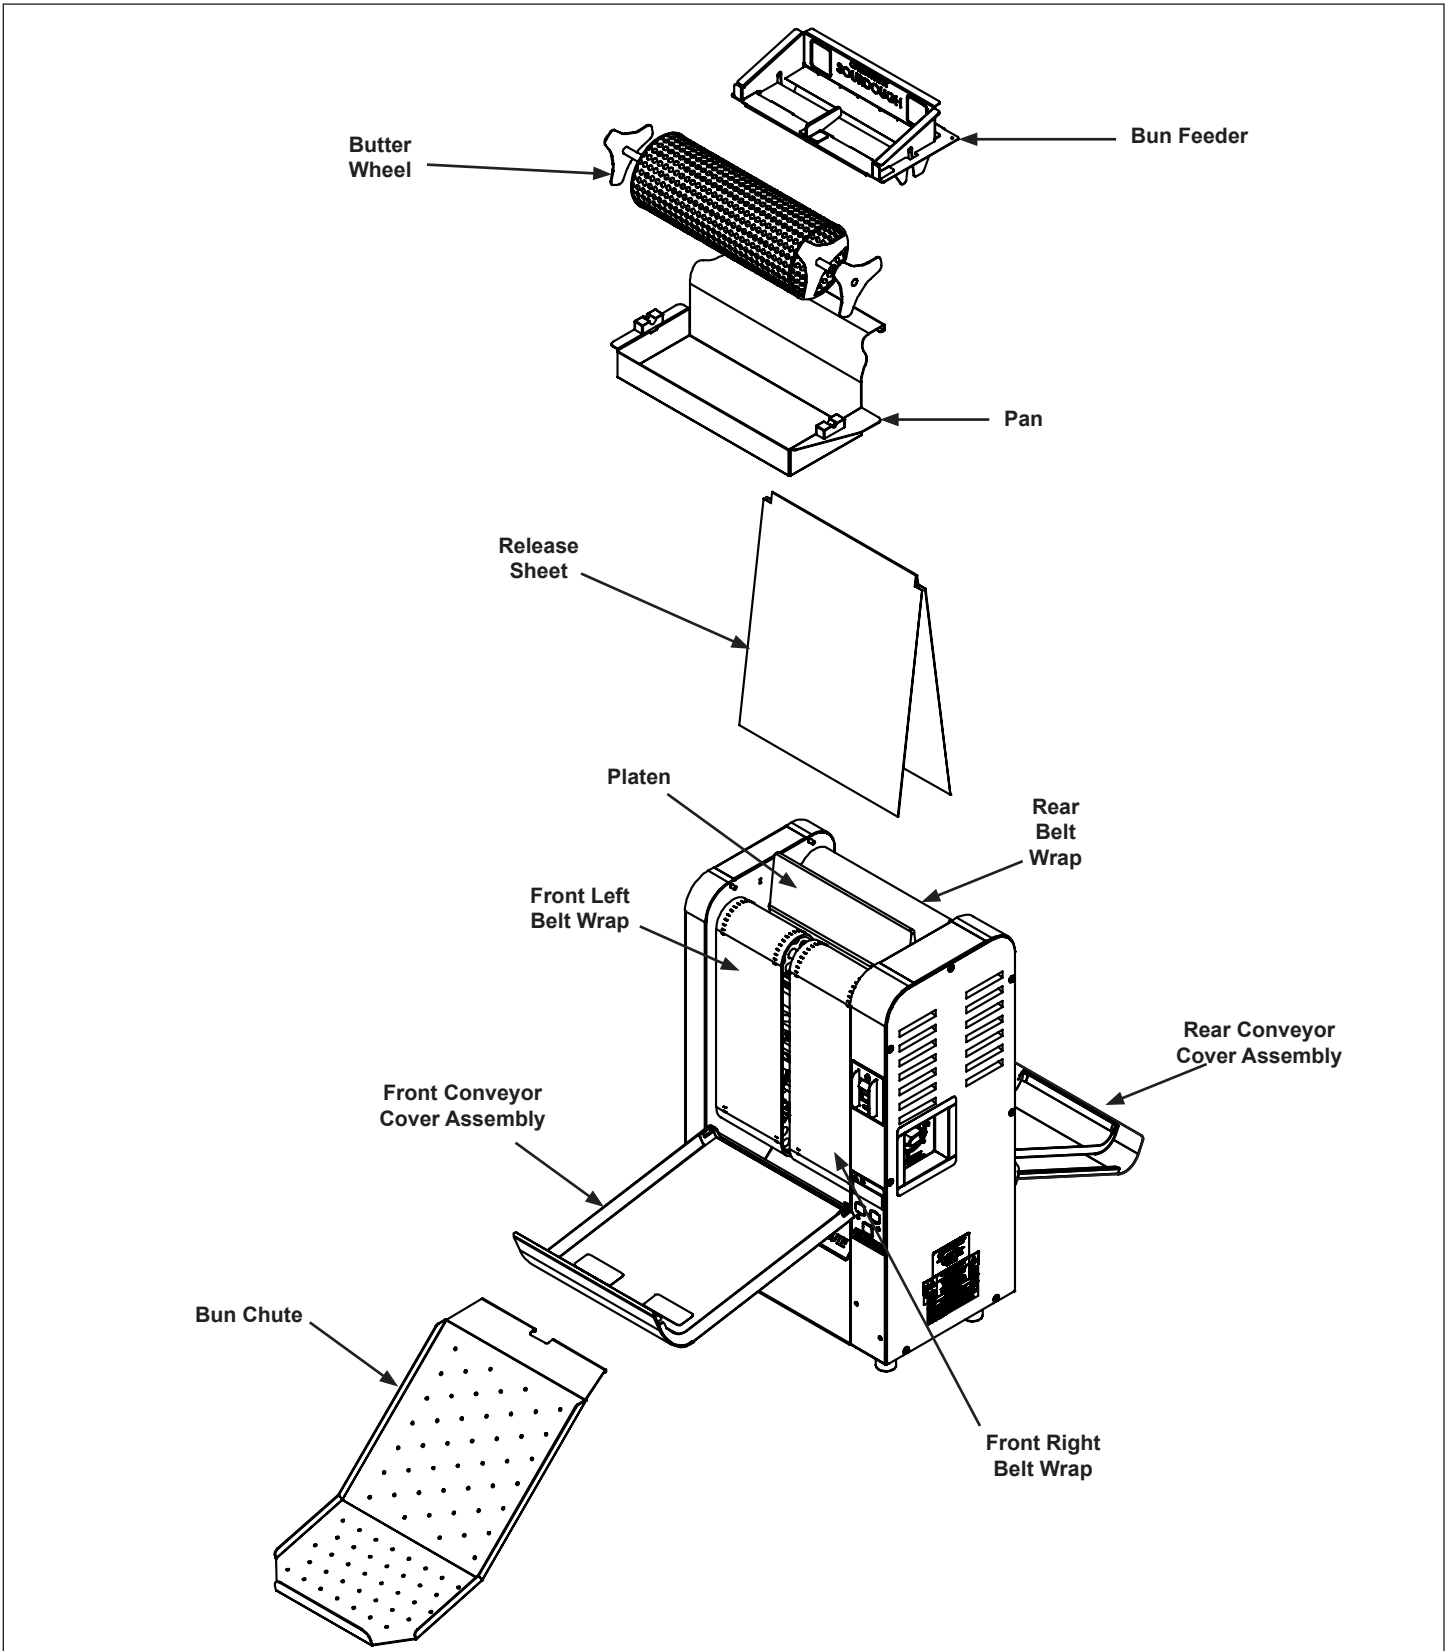

Figure 3. Components
2. Open the included large box. It should contain the following (See Figure 3):
NOTE: The factory has pre-installed a Release Sheet over the Platen (Figure 3). Verify that it is properly in place before proceeding.